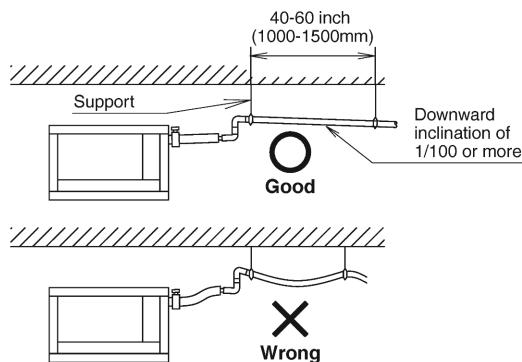

Fig. 12
(1) Carry out drain piping.
- Install the drain piping as short as possible with downward inclination of 1/100 or more and without such that air may not stagnate. (Refer to Fig. 12) (It may cause abnormal sound such as bubbling noise.)
- Install supports at a distance of 40 to 60 inch (1000 to 1500mm) so that the piping may not deflect. (Refer to Fig. 12)
- Make sure to use the attached drain hose (2) and the clamp metal (1).